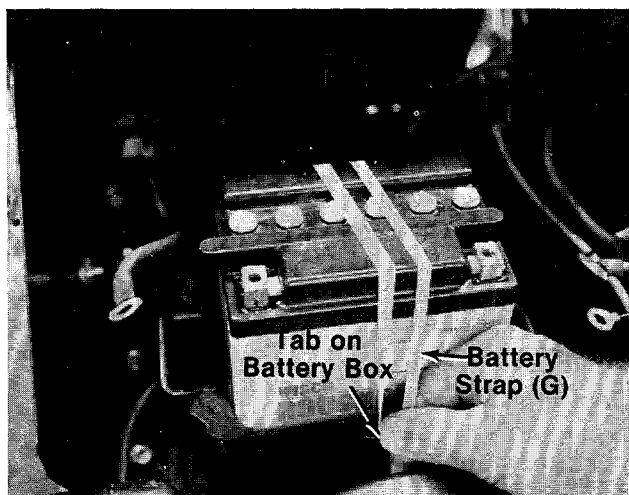

FIGURE 12.
- ← 12. Secure the battery to the battery box by stretching the battery strap (G) across the battery. Loop each end around the tab on the sides of the battery box. See figure 12.